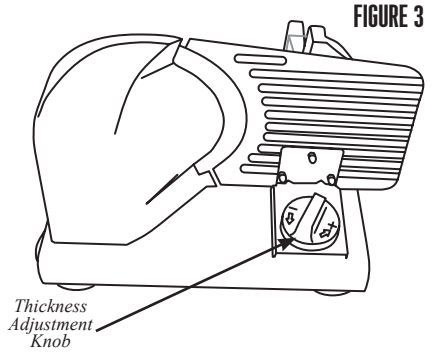

FIGURE 3
5. Rotate the Thickness Adjustment Knob to set the Gauge Plate to the desired cutting thickness (**FIGURE 3**). Rotate towards the “-” for the thinnest slice, and rotate towards the “+” for the thickest slice.